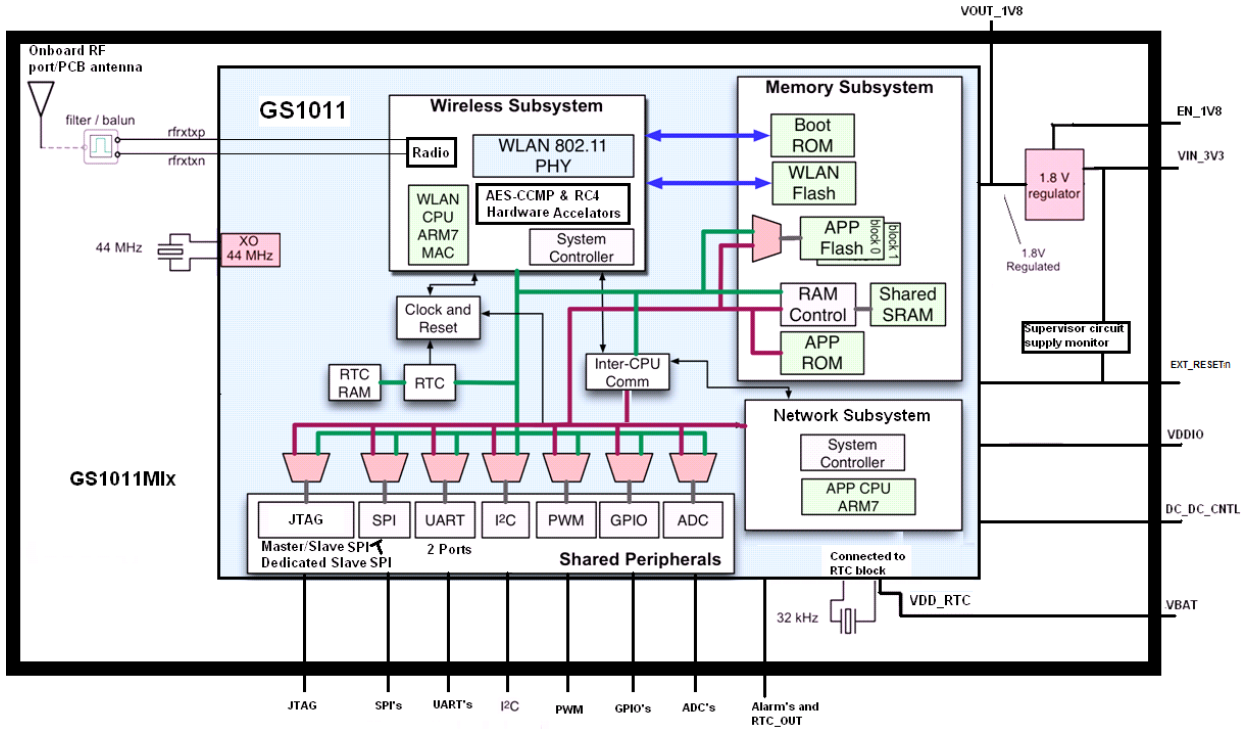

Figure 2-1: GS1011Mx Block Diagram
- The low power module option has a capability of +9dBm output power at the antenna (see Figure 2-1).